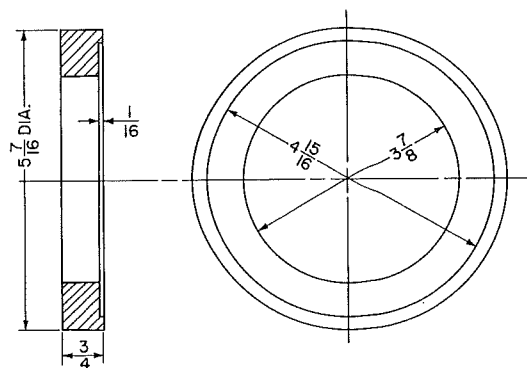

FIG. 44—SEAL SEATING TOOL
d. If the seal is to be replaced when the housing is on the engine, drill two 1/8" [3,175 mm.] holes at opposite sides of the seal flange. Thread two No. 10 self-tapping screws in the holes. Pry the seal out with two pry bars inserted under the heads of the screws. Inspect wear and mounting surfaces for nicks and burrs. If present, remove with an emery cloth and polish with crocus cloth. Use a seal guard to install seal. If not available, wrap a piece of 0.005" [0,127 mm.] shim stock around the crankshaft. Start seal into housing with a hammer. After seal has been installed to a point where the sealing lip is beyond the outer edge of the crankshaft, remove shim stock. Be sure sharp edges of shim stock do not cut seal when removing. Finish driving in seal with improvised tool as shown in Fig. 44. In an emergency, the seal may be driven in with a blunt end driver. Make sure seal or seal case is not damaged.